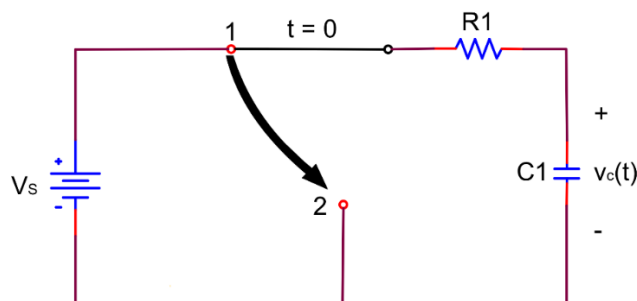

Figure 10.4
2. At $t = 0$, the switch in Figure 10.4 is moved from position 1 to position 2.